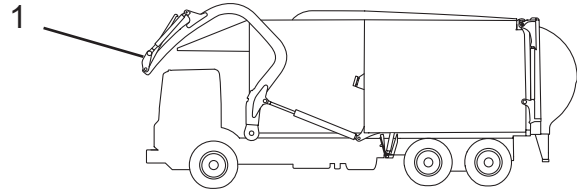
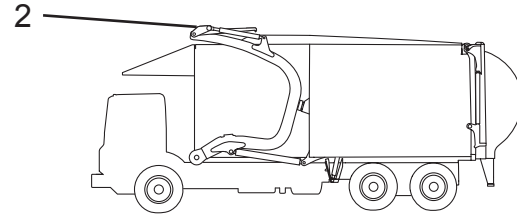

Figure 5
Figure 6
3. The arms and forks can either be positioned with the forks raised and arms raised above the windshield (Figure 5, Item 1), or with the forks tucked and the arms fully raised (Figure 6, Item 2).